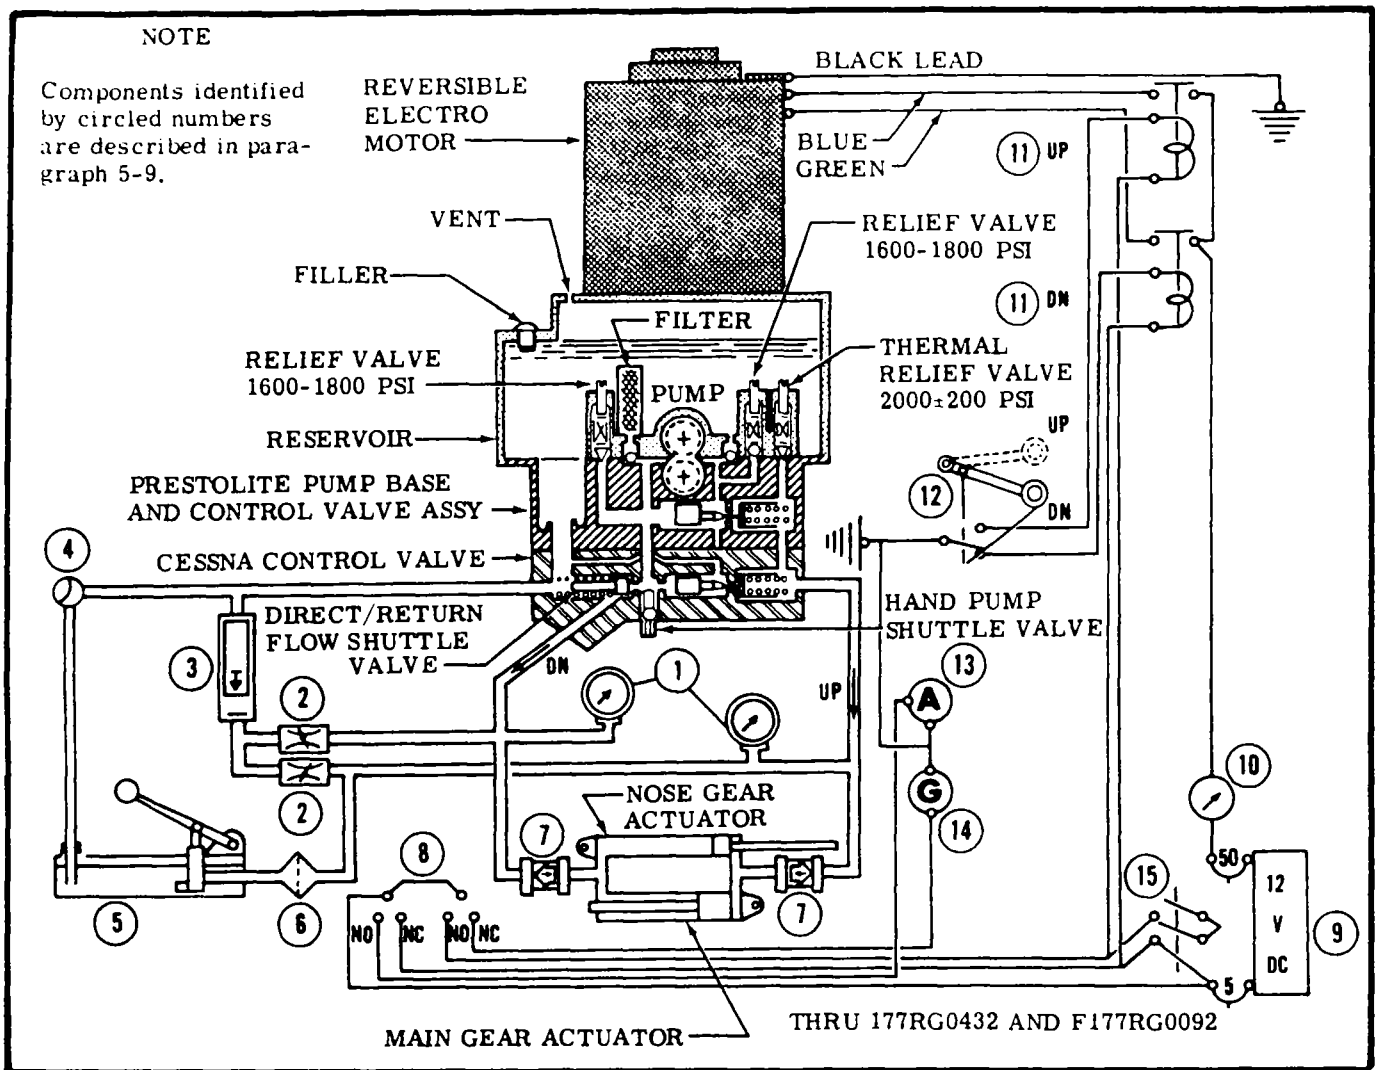

Figure 5-3. Power Pack Functional Test Schematic
5-9. POWER PACK FUNCTIONAL TEST PROCEDURES. THRU 177RG0432 AND F177RG0092 (Refer to figure 5-3.)
Switches shall be of single-pole, double-throw type, provided with convenient actuating system, arranged as shown in figure 5-3. Purpose is to cut off power supply to electric motor (solenoid switches) at the end of the working cycle, and to turn on corresponding indicator light.
1. Using MS28778-4 gaskets (4) and NAS144-DH-12 bolts (4), with AN 960-916 washers, install Prestolite Power Pack on top of Cessna-built control valve assembly, and connect electrical lines as specified in figure 5-3.